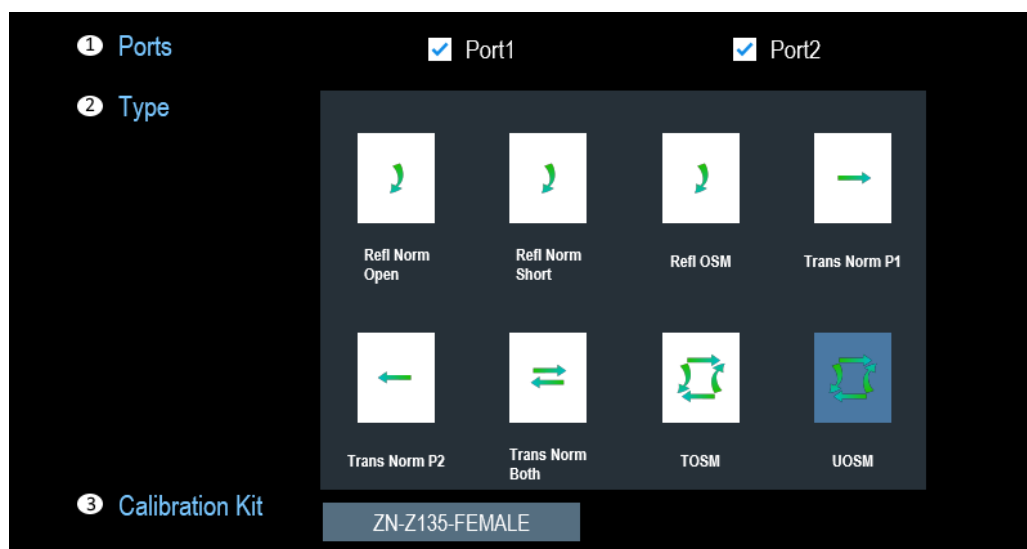

Figure 8-2: Calibration configuration dialog
- UOSM can be selected explicitly in the Figure 8-2.